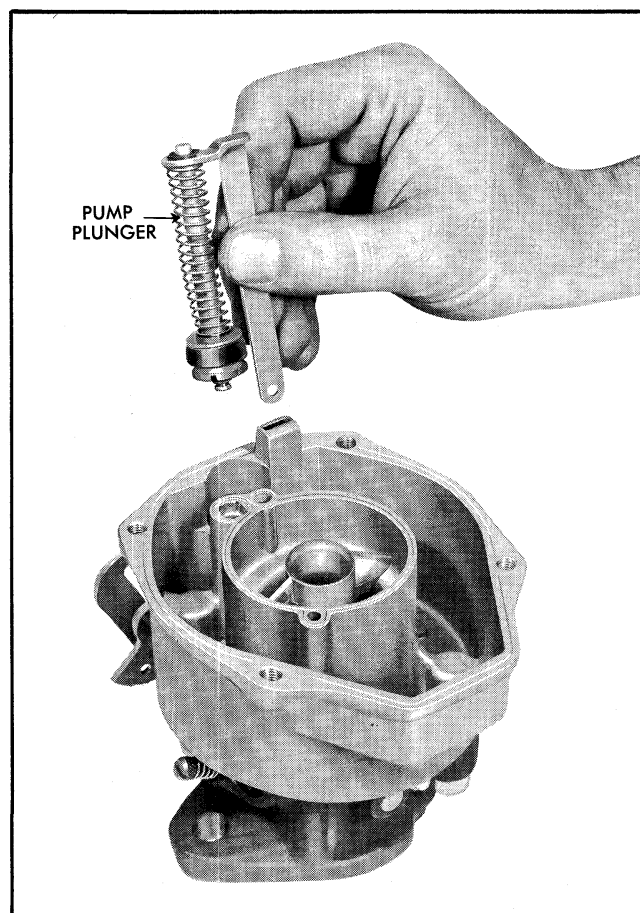

Fig. 6B-24 Removing Pump Plunger
4. Remove pump return spring from bottom of pump well (Fig. 6B-25).